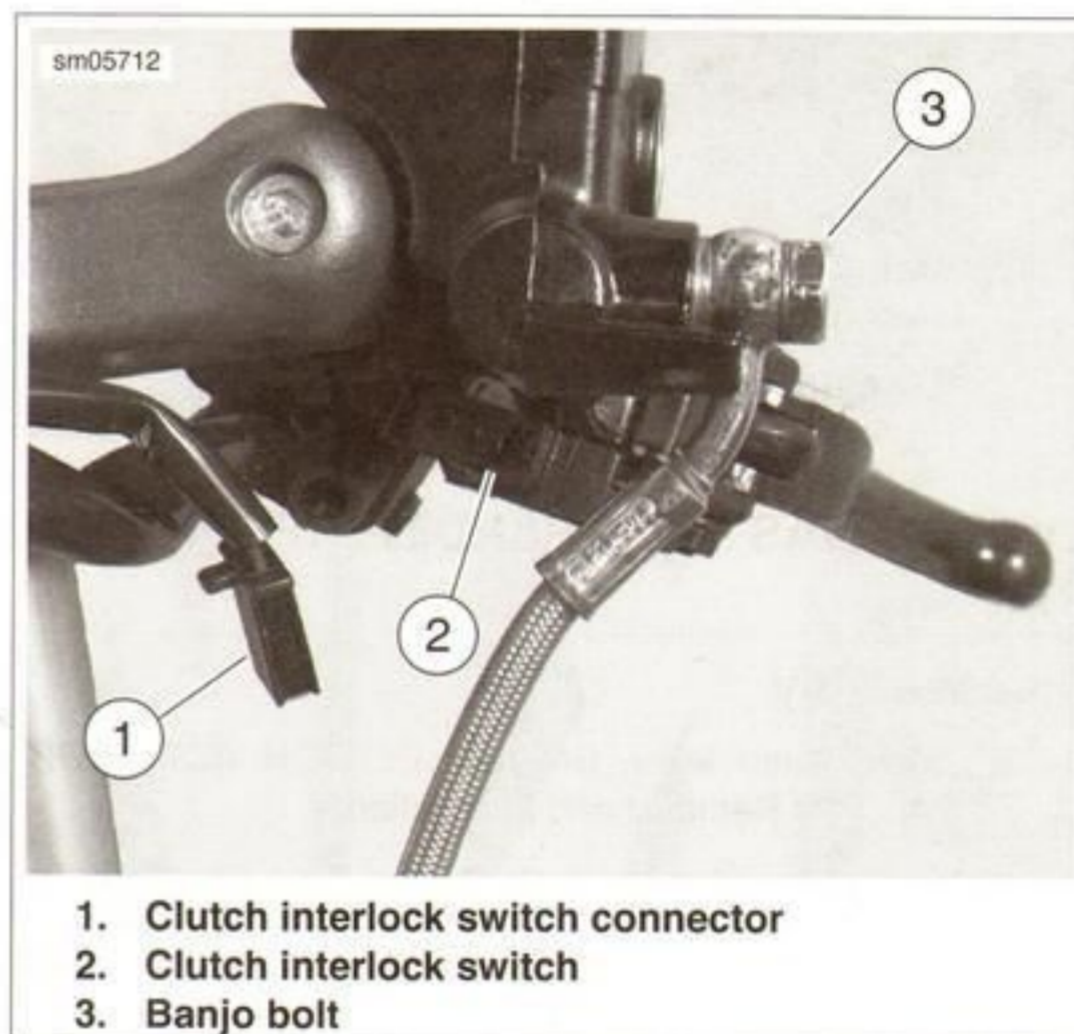

Figure 6-2. Clutch Interlock Switch Connector and Banjo Bolt Removal
2. See Figure 6-2. Disconnect the clutch interlock switch connector (1) from the clutch interlock switch (2).